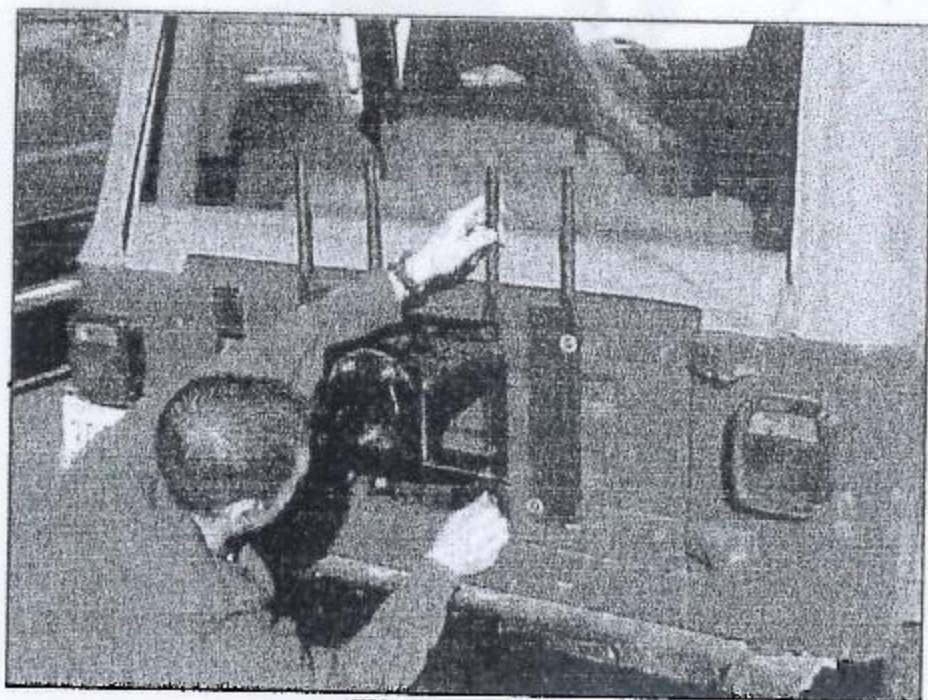

Figure 7
2. Secure the Vertical Brace loosely to the vehicle using the 5/16" Bolts/Washers provided (Figure 7). **NOTE:** Be sure to hand tighten the (4) Bolts of the Vertical Brace. This will allow you to accurately align the Vertical Brace's slotted holes over the vehicle's factory holes.